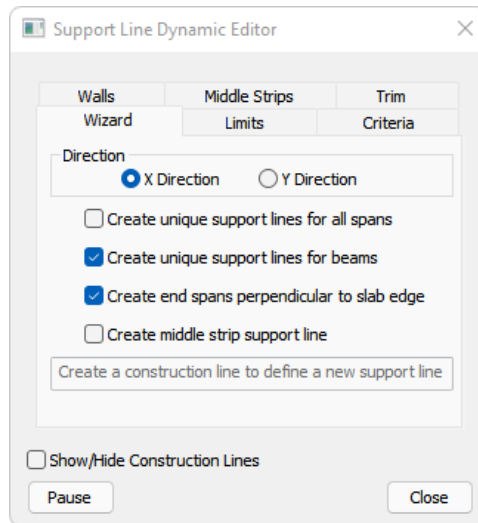

FIGURE 9-5
- Go to *Floor Design*->*Strip Modeling* and click on the **Dynamic Editor**  icon. This will open the *Dynamic Support Line Editor* dialog window as shown in **FIGURE 9-5**.